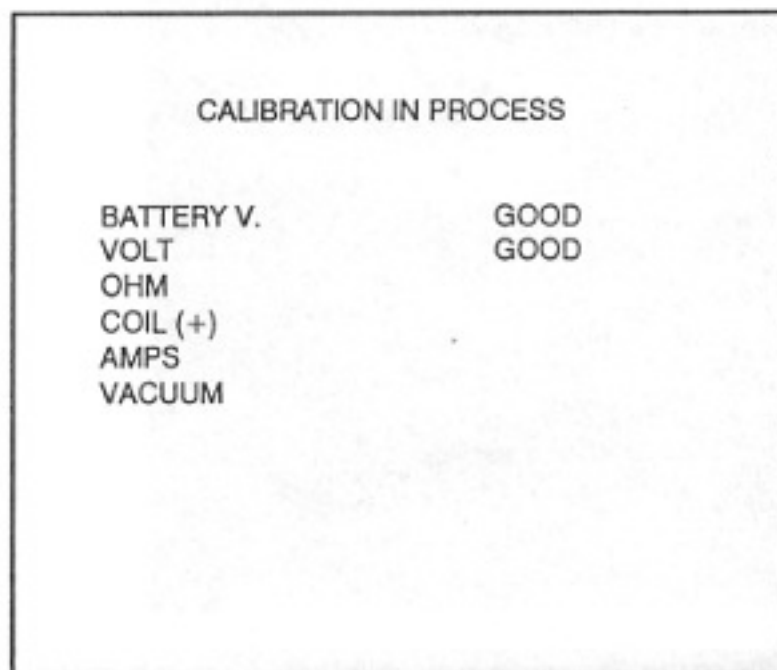

FIGURE 10. If an emissions module is not installed, this page appears when selection four is made on the PROGRAM MENU page.
- a. If an emissions module is not installed, the CALIBRATION page(Figure 10)identical to the one that appears after the tester self-test/warm-up page, will be displayed. Refer to "Test Preparation" for instructions on how to automatically self-calibrate the analyzer.